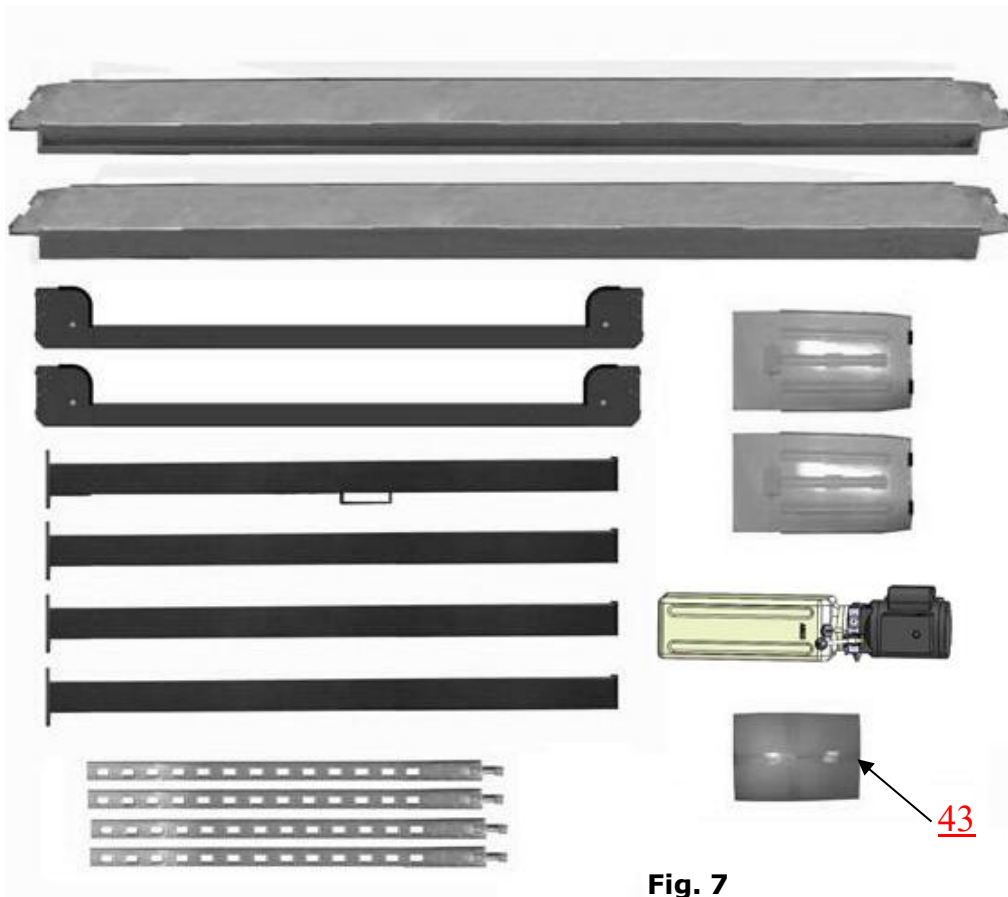

Fig. 7
5. Move aside the parts and check the parts according to the shipment parts list (See Fig. 7).